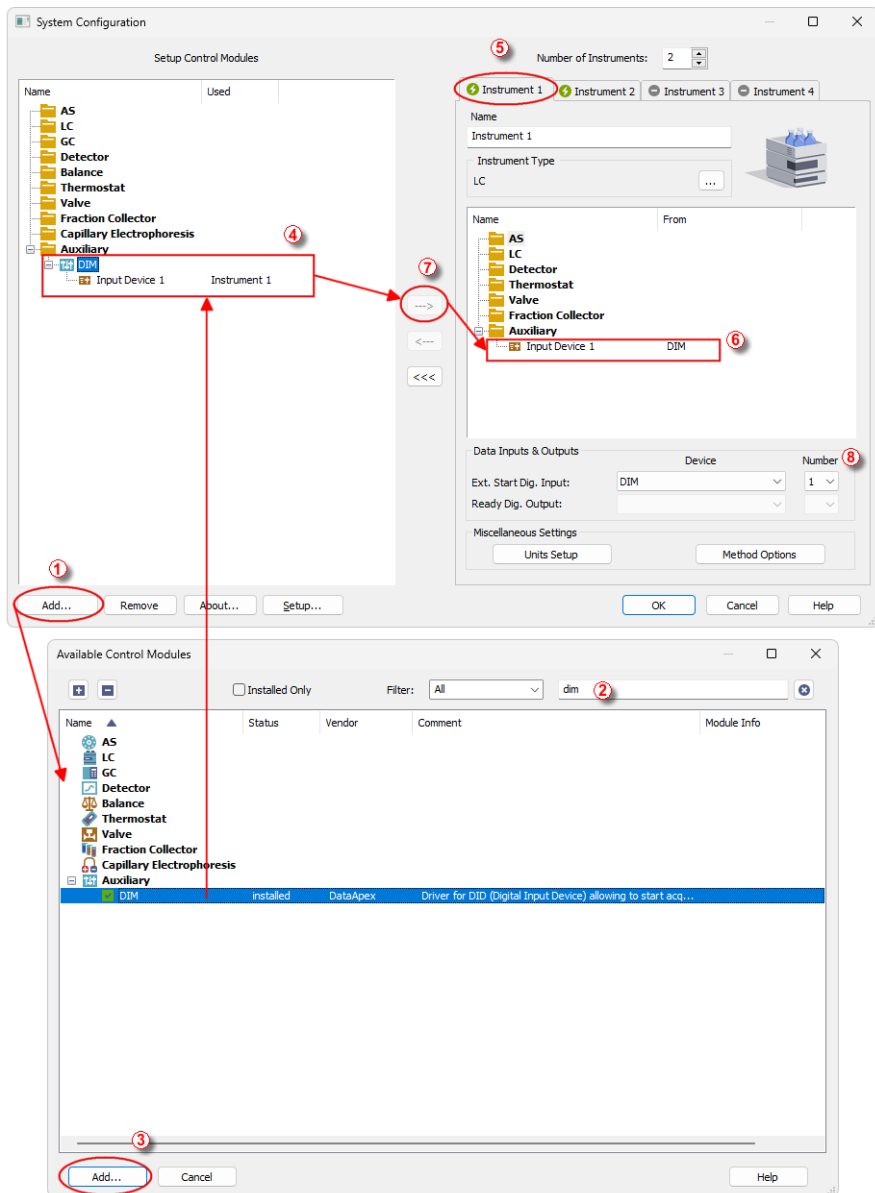

Fig. 3: System Configuration
- Press the *Add* button ① (See **Fig. 3** on pg. 4.) to invoke the *Available Control Modules* dialog.
- You can specify the searching filter ② to simplify the finding of the driver.
- Select the **DIM** item in the *Auxiliary* section and press the *Add* ③ button.